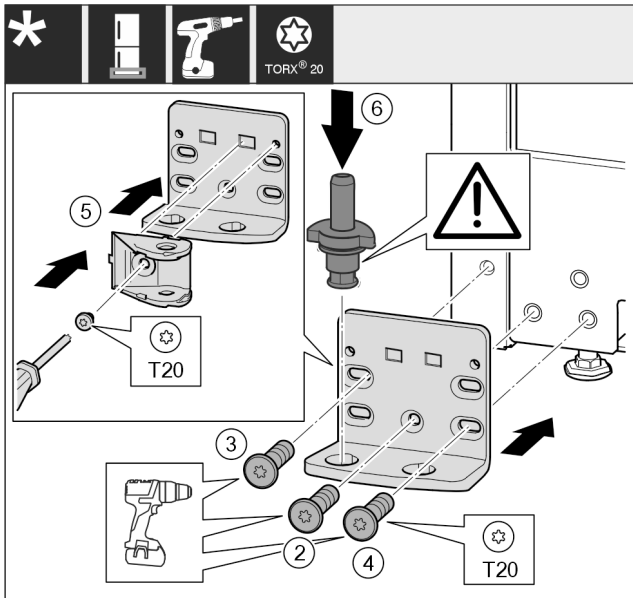

Fig. 19
- ▶ Place the bearing bracket on the other side and screw it in using the T20 screwdriver. Start with screw 2 at the bottom in the middle. Fig. 19 (2)
- ▶ Screw in screws 3 and 4. Fig. 19 (3,4)